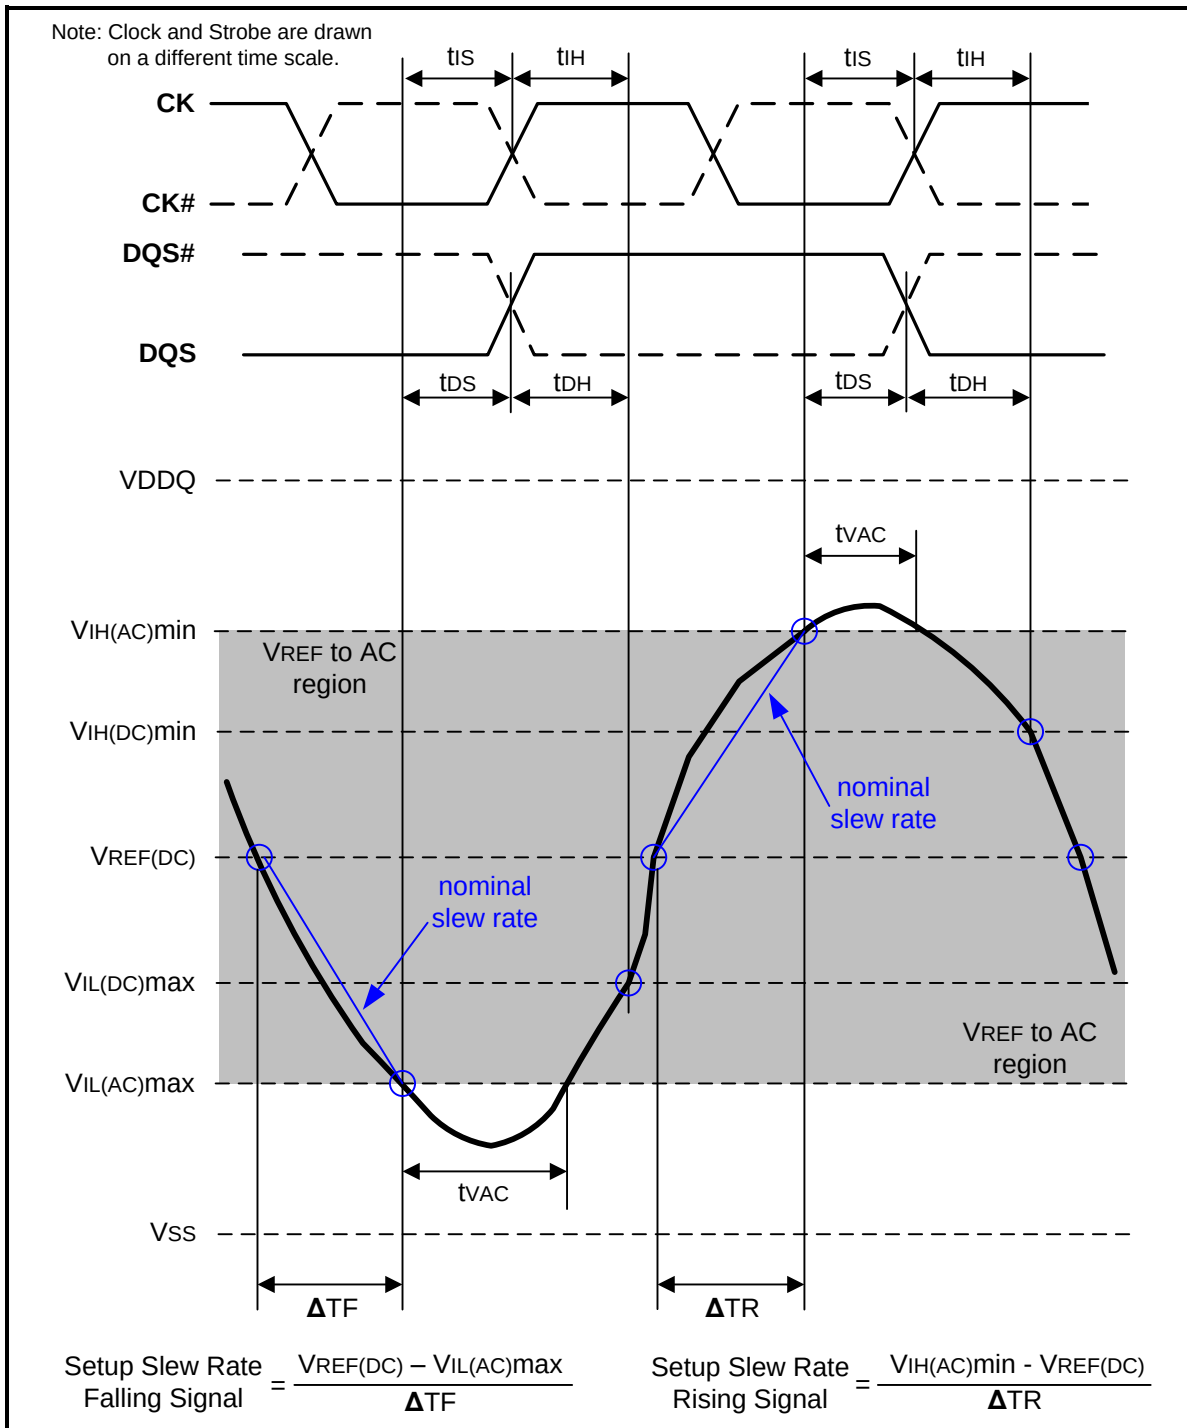

Figure 107 – Illustration of nominal slew rate and t_{VAC} for setup time t_{DS} (for DQ with respect to strobe) and t_{IS} (for ADD/CMD with respect to clock)
Setup (t_{IS}) nominal slew rate for a rising signal is defined as the slew rate between the last crossing of $V_{REF}(\text{DC})$ and the first crossing of $V_{IH}(\text{AC})_{\text{min}}$. Setup (t_{IS}) nominal slew rate for a falling signal is defined as the slew rate between the last crossing of $V_{REF}(\text{DC})$ and the first crossing of $V_{IL}(\text{AC})_{\text{max}}$. If the actual signal is always earlier than the nominal slew rate line between shaded 'VREF(DC) to AC region', use nominal slew rate for derating value (see Figure 107). If the actual signal is later than the nominal slew rate line anywhere between shaded 'VREF(DC) to AC region', the slew rate of a tangent line to the actual signal from the AC level to DC level is used for derating value (see Figure 109).
Setup (tDS) nominal slew rate for a rising signal is defined as the slew rate between the last crossing of VREF(DC) and the first crossing of VIH(AC)min. Setup (tDS) nominal slew rate for a falling signal is defined as the slew rate between the last crossing of VREF(DC) and the first crossing of VIL(AC)max (see Figure 107). If the actual signal is always earlier than the nominal slew rate line between shaded 'VREF(DC) to AC region', use nominal slew rate for derating value. If the actual signal is later than the nominal slew rate line anywhere between shaded 'VREF(DC) to AC region', the slew rate of a tangent line to the actual signal from the AC level to DC level is used for derating value (see Figure 109).